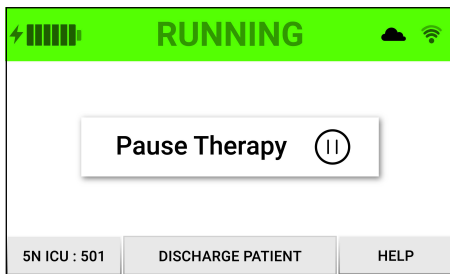
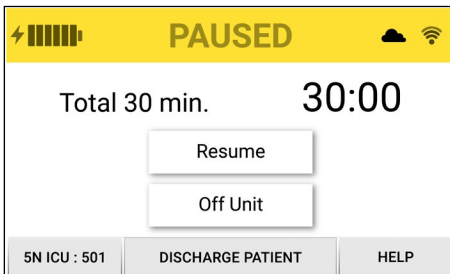

Figure 5. Running Screen
Figure 6. Paused screen
1. To stop therapy at the end of patient use, press 'Discharge Patient'; at the bottom of the running (Fig. 5) or paused screens. Standard (Fig. 6) or procedure (Fig. 9)